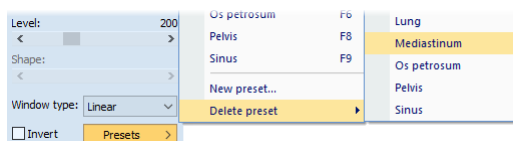

Figure 157 – Deleting a window/level preset
3. Select the preset you want to remove in the displayed submenu list (see Figure 157).